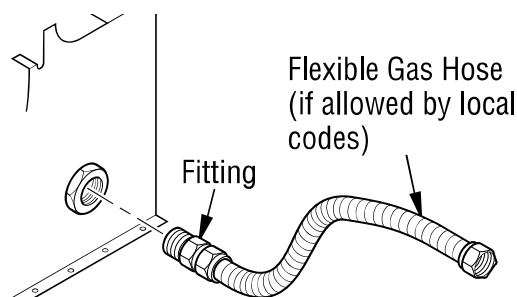

Figure 11 - Attaching Flexible Gas Hose to Heater
1. Connect approved flexible gas hose to gas control fitting in heater (*see Figure 11*).